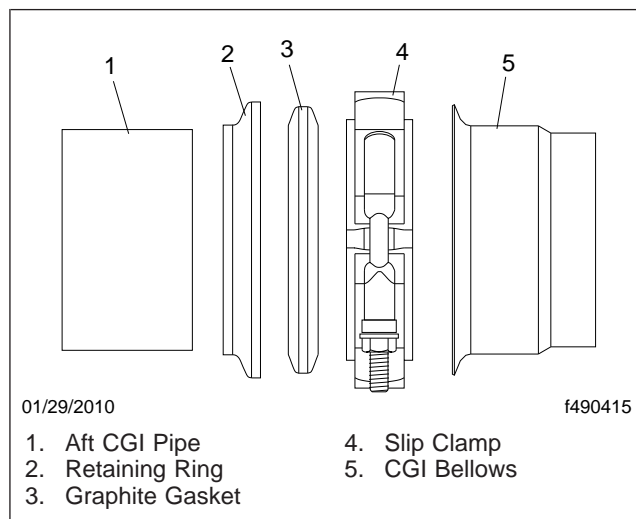

Fig. 3, Aft Facing Slip Clamp Installation
11. Slide the slip clamp, with the retaining ring and graphite gasket ring, on the aft CGI pipe. See Fig. 3 for proper installation.